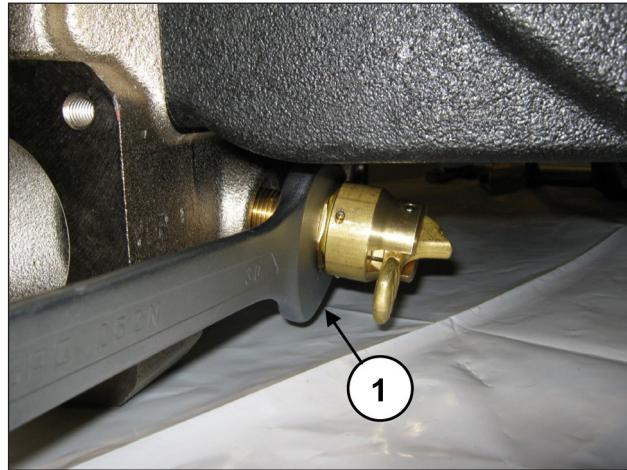

Fig. 141
Unscrew the valve opening device using a 30 mm wrench (pos. ①, Fig. 141).